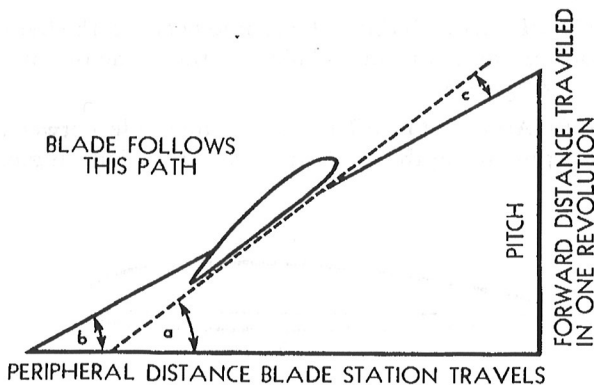

Figure 4—Helical Motion Diagram
(b) EFFECTIVE PITCH.—The actual distance an aircraft advances with 1 revolution of the propeller. (See figure 4.)
(9) PITCH ANGLE.—The angle between the helical path of any point on a blade and the plane of rotation. (See figure 4.)
(10) ANGLE OF ATTACK.—The angle between a line representing the pitch angle and the blade angle.